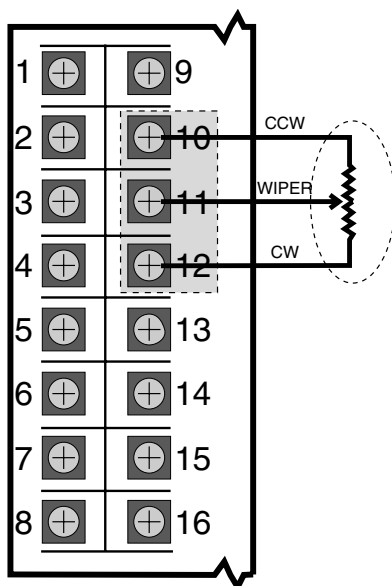

Figure A4.10
2. Attach a 100 Ω to 1000 Ω potentiometer to terminals 10, 11 and 12 as shown in Figure A4.10.